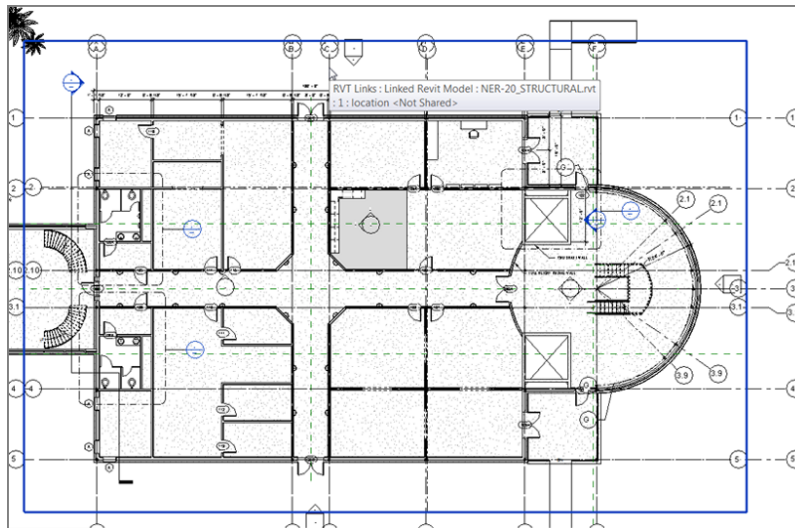

FIGURE 20.5: Selecting the link to Copy/Monitor
3. Hover your pointer over one of the grids. You see an outline of the Revit Structure model that you've linked in. Pick the grid (see Figure 20.5).